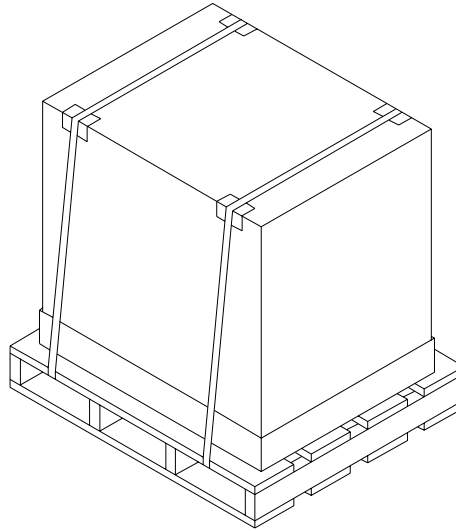

Figure 6-10 Securing the banding material
10. Secure banding material around the box and through the wooden pallet, as shown in Figure 6-10.